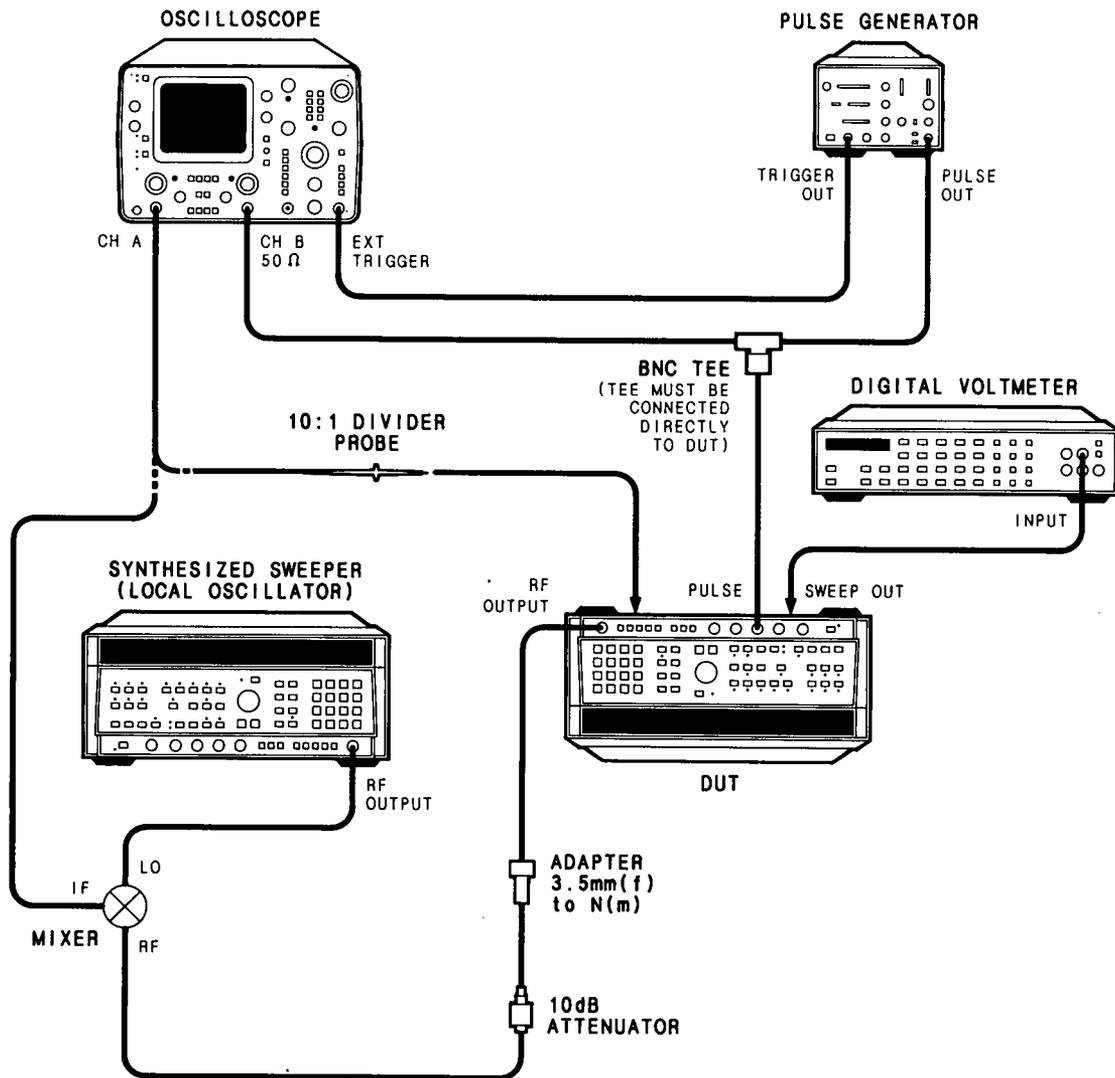

Figure 5-64. Pulse Adjustment Setup
1. Connect equipment as shown in Figure 5-64. Allow at least 30 minutes warmup.